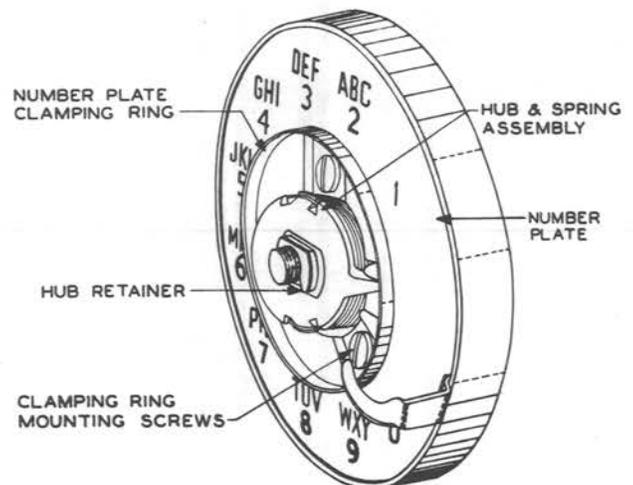

Fig. 14 — 6-Type Dials With Metal Fingerwheel Removed
(8) Remove the number plate clamping ring by removing the three clamping ring mounting screws shown in Fig. 14, using the C screwdriver. Remove the clamping ring and the number plate.
(9) Clean the number plate with a KS-2423 cloth moistened with KS-7860 petroleum spirits. If the finish on the number plate is marred or scratched, take particular care to avoid removing the characters at the points where the scratches cross the characters. Use the Bell System rubber eraser to remove pencil marks or other foreign matter not removed by the petroleum spirits. Do not immerse the number plate in petroleum spirits.
(10) Remount the parts in the reverse order of removal. When the motor spring and hub assembly is not staked, mount a P-12A951 hub retainer on the shaft, as shown in Fig. 14, to secure the hub and spring assembly in place.